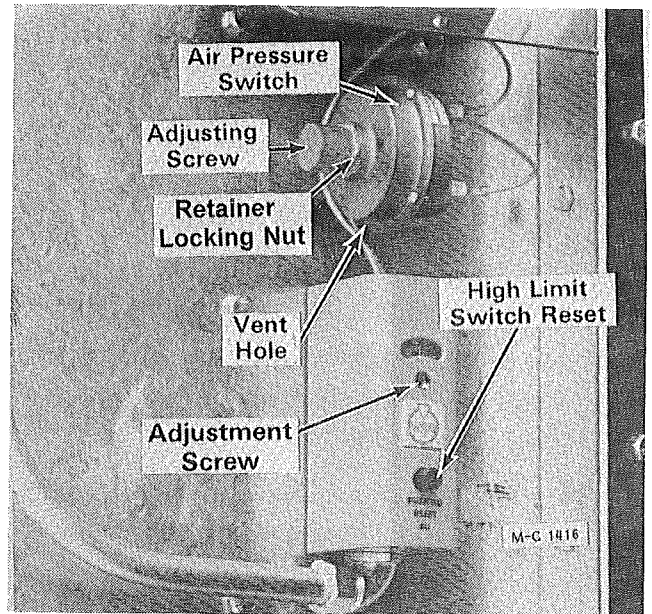

Figure 17
1. There is an air pressure switch for each heat chamber, see Figure 17. The air pressure switch detects static air pressure in the heat chamber when the dryer is full of grain and the fan is running. If the static air pressure drops because of fan failure, the air pressure switch opens stopping current flow to the ignition switch. The gas
- Remove the plastic cap on the air pressure switch. The slotted screw is the adjusting screw. See Figure 17.
9. If the high limit switch trips out, close the gas hand valve and turn the ignition switch OFF. Push the reset button on the high limit switch to reset it. See Figure 17. Adjust high limit 30° to 50° above operating temperature. This will avoid nuisance shutdowns during start up.